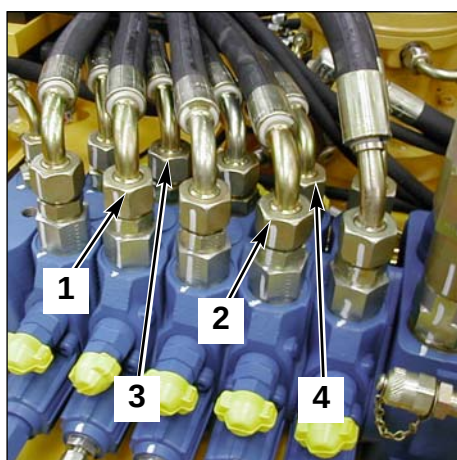

Fig. 1 SX14 valve block
- small chambers of the dipper ram and intermediate boom ram (1 fig. 1) and (2 fig. 1).
- large chambers of the dipper ram and intermediate boom ram (3 fig. 1) and (4 fig. 1).